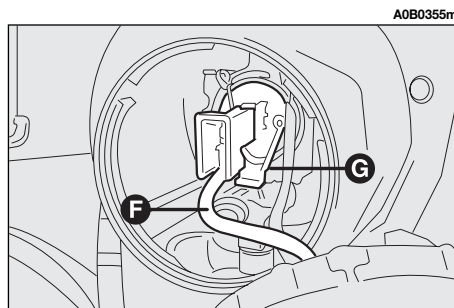

fig. 35
- Withdraw the supply cable terminal (**F**-fig. 35).
— Fit a new bulb making the tabs of the metallic part coincide with the grooves in the lamp lens and hook the bulb stopper (**G-fig. 35**).
— Refit the supply cable terminal (**F-fig. 35**).